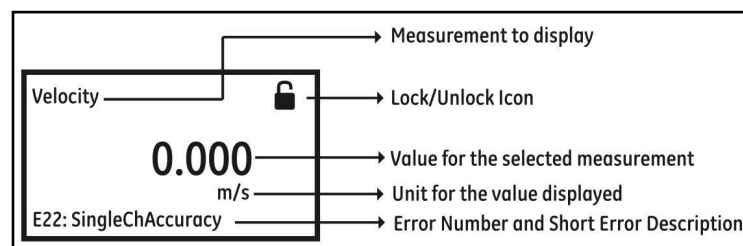

Figure 22: Measurement View
After power up, if the meter's *Measurement View* (Refer *Figure 22*) shows a lock icon on the top right of the display, use the following steps to unlock the meter from keypad lockout mode.
- Finally, the *Measurement View* (Refer *Figure 22*)
This screen (Refer *Figure 22*) will be referred to as "*Measurement View*" throughout this chapter. User can choose the measurement to be displayed in this view from a list of options. The Error indicator at the bottom left of the display will be blank if the meter has no error.